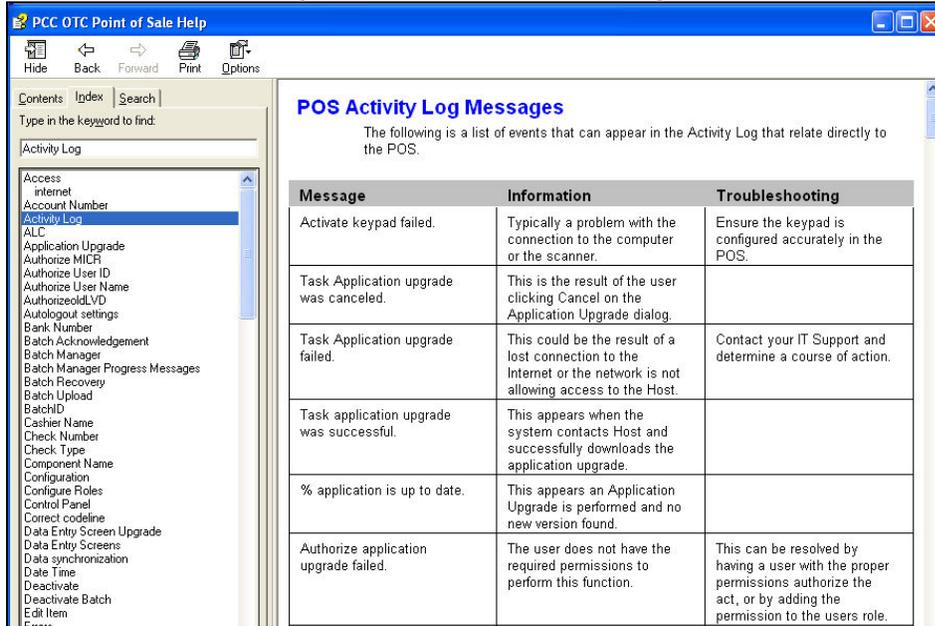

Figure 4.25
- Index – displays the index of items on the left side of the screen. The user can click to highlight an item on the left then click the ‘Display’ button at the bottom of the window to display the contents of that subject in the window on the right side of the screen. (Figure 4.25)